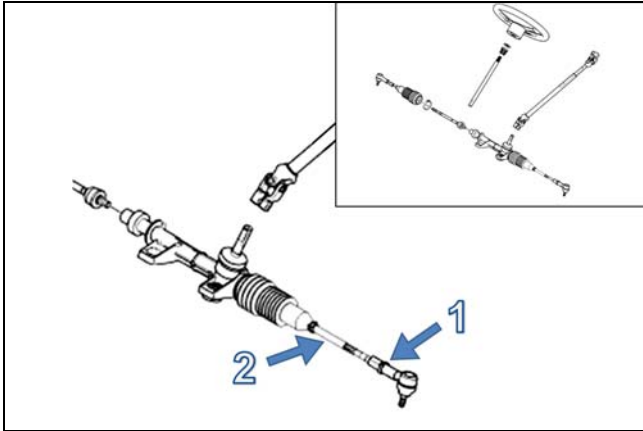

Figure 16
To adjust the UTV's steering system, first, loosen coupling rod nut (1), screw or unscrew the coupling rod (2) an equal number of revolutions on both sides of the vehicle. See Figure 16.